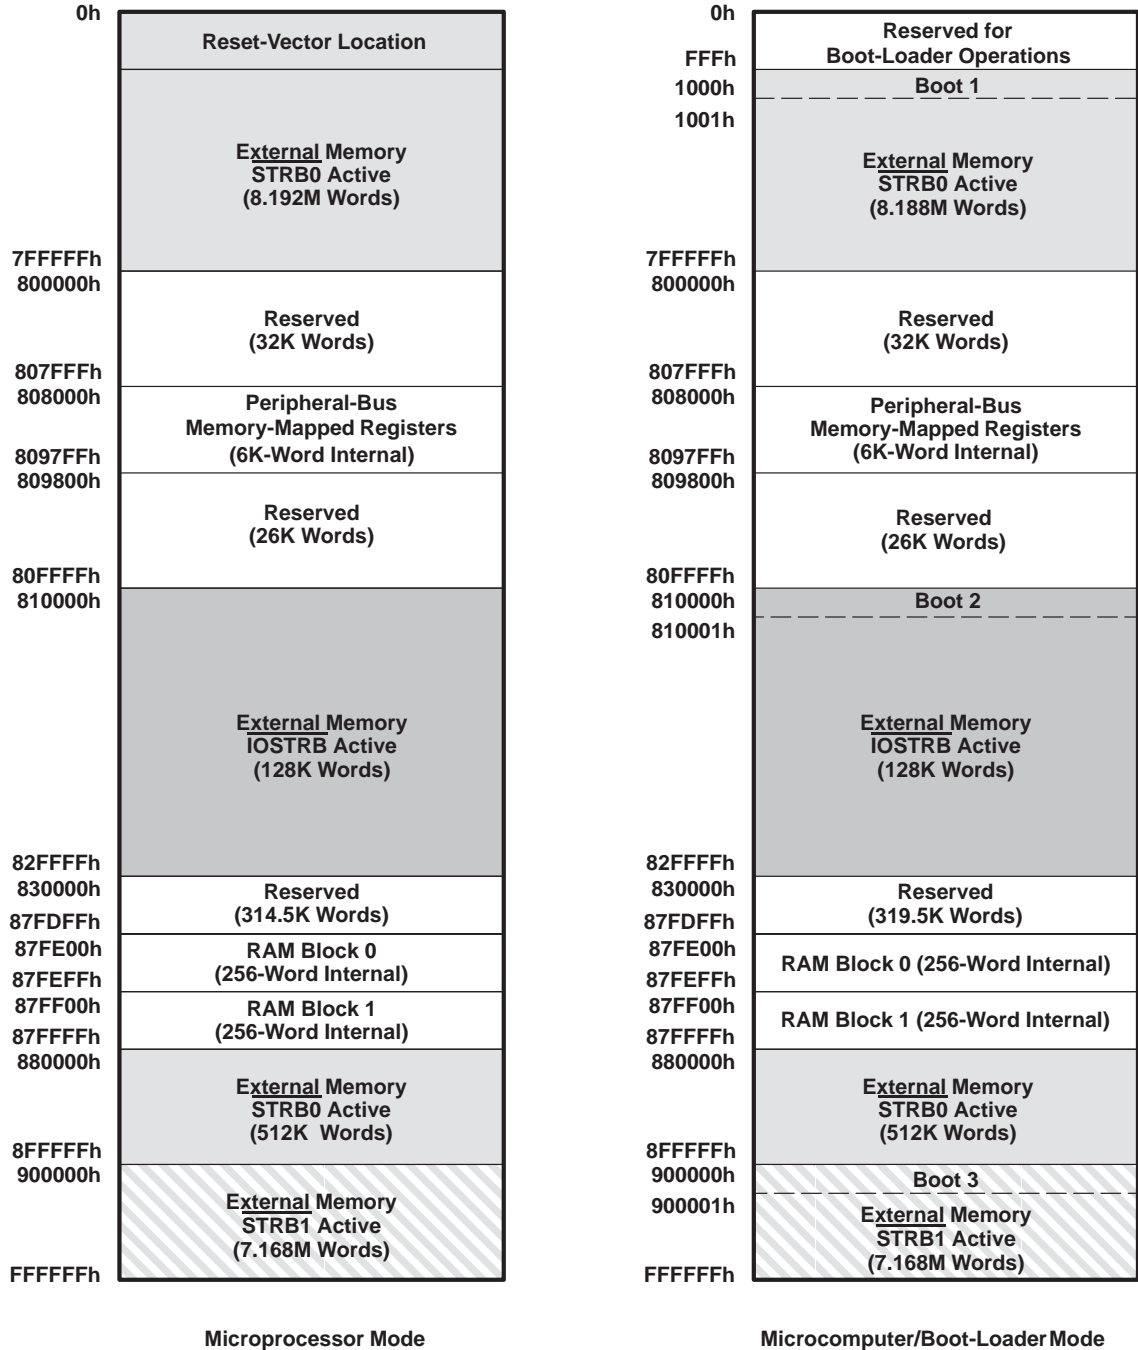

Figure 8. TMS320C32 Memory Map
- $\overline{\text{STRB0}}$ and $\overline{\text{STRB1}}$ are sets of control signals, four signals each, that are mapped to specific ranges of external-memory addresses. When an address within one of these ranges is accessed by a read or write instruction (CPU or DMA), the corresponding set of control signals is activated. Figure 8 illustrates the TMS320C32 memory map, showing the address ranges for which the strobe signals become active.
- The $\overline{\text{IOSTRB}}$ control signal, like $\overline{\text{STRB0}}$ and $\overline{\text{STRB1}}$, also is mapped to a specific range of addresses but it is a single signal that can access only 32-bit data from 32-bit-wide memory. Its range of addresses appears in the TMS320C32 memory map, shown in Figure 8. The $\overline{\text{IOSTRB}}$ bus timing is different from the $\overline{\text{STRB0}}$ and $\overline{\text{STRB1}}$ bus timings to accommodate slower I/O peripherals.
Figure 8 depicts the memory map for the TMS320C32. Refer to the TMS320C32 Addendum to the *TMS320C3x User's Guide* (literature number SPRU132) for a detailed description of this memory mapping, with shading to indicate external memory.